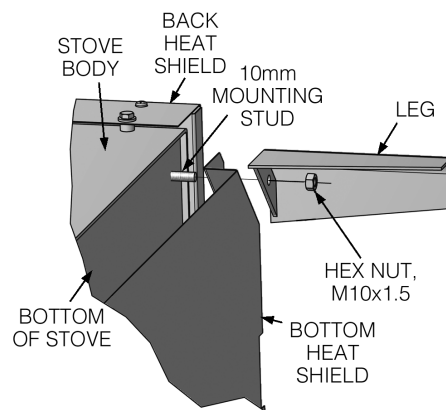

Fig. 2 – LEG ASSEMBLY
5. Position the bottom heat shield, figure 2, aligning the corner holes with the four leg mounting studs. The smaller cutout must align with the air intake in
6. Align each leg with the mounting stud and slide into place. Replace the leg mounting hardware (hex nut, fig. 2) after installing the leg. After all four legs have been installed, tighten all mounting hardware.